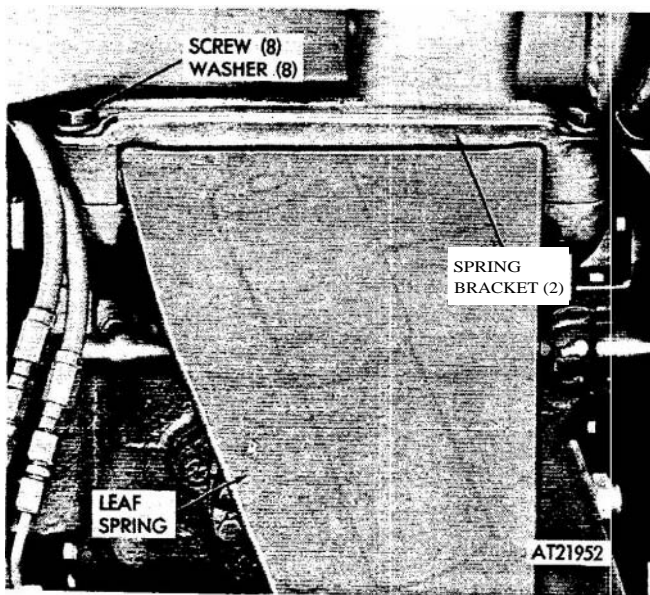

Figure 2-300. Center axle leaf spring, removal and installation.
(2) Remove left and right wheel and tire assembly (refer to para 2-156).
(3) Remove eight screws and lock washers securing spring brackets to differential (fig 2-300).
(4) Raise A-frame arms, using jacks, and remove nuts, lock washers, and bolts securing upper ends of outer shock absorbers.
(5) Slide leaf spring to one side until end of spring is clear of one spring tower.
(6) Lower free arm 1 to 2 inches, withdraw leaf spring from opposite spring tower and remove spring.
(1) Position leaf spring on center differential (fig 2-300).
(2) Insert end of spring into spring tower on one arm.
(3) Jack opposite arm until end of spring is centered on spring tower.
(4) Shift spring (left or right) until ends are equidistant between blocks in A-frame (spring tower).
(5) Position spring brackets to pads and secure leaf spring to differential with eight screws and lock washers.
(6) Install right and left wheel and tire assemblies (refer to para 2-156).
(7) Remove blocks and jacks.
(8) Operate vehicle to check operation of spring and insure that wheels do not bottom out under normal bounce.